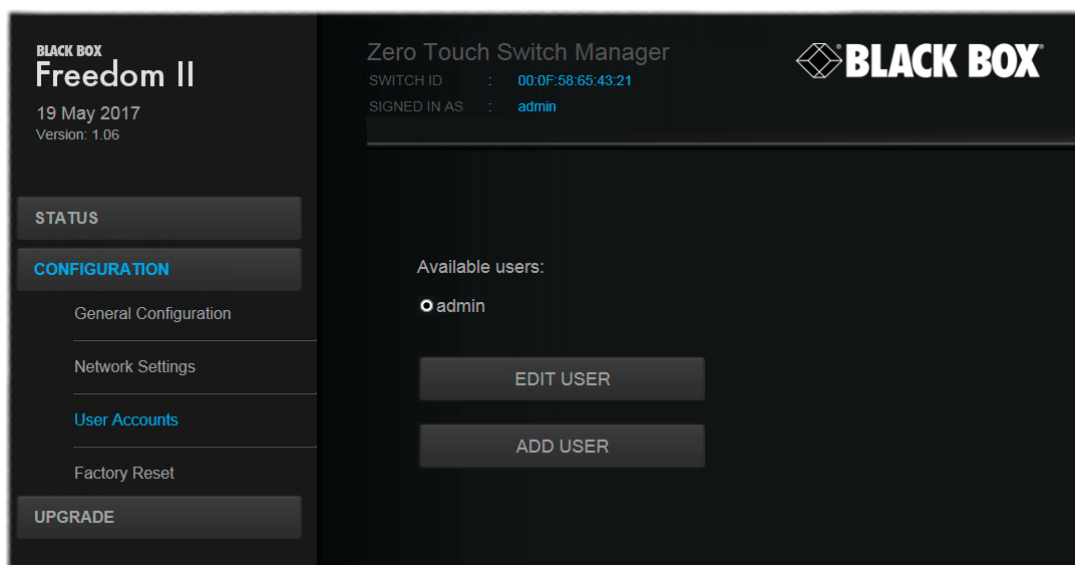

Figure 4-5. The User accounts page
- 3 On the left side, click the User accounts option. See Figure 4-5.